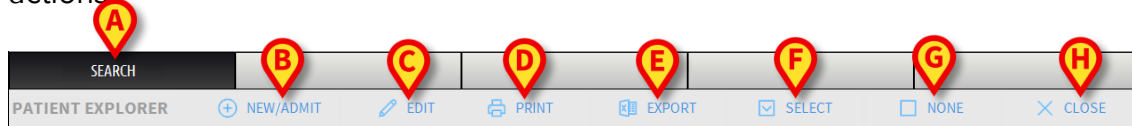

Fig 109
The command bar (Fig 109) contains buttons making it possible to perform different actions.
- 1) **Search** (Fig 109 **A**) – This button, if configured, can be used to indicate the current ward or department.
- 2) **New/Admit Patient** (Fig 109 **B**) – This button makes it possible to enter a new patient in the database and to admit him/her to a bed (see paragraph 6.13.1 for the detailed procedure).
- 3) **Edit Patient** (Fig 109 **C**) – This button makes it possible to edit the patient's data (see paragraph 6.13.2).
- 4) **Print** (Fig 109 **D**) - This button, when enabled, prints the grid currently displayed on screen.
- 5) **Export** (Fig 109 **E**) - This button, when enabled, makes it possible to export the current data to an XLS file.
- 6) **Select** (Fig 109 **F**) - This button makes it possible to select a patient.
- 7) **None** (Fig 109 **G**) – This button makes it possible to deselect a patient when he/she is selected. After clicking the **None** button, the name of the previously selected patient disappears from the **Patient** button (see paragraph 6.13.8).
- 8) **Close** (Fig 109 **H**) – This button closes the search screen (see paragraph 6.13.9).